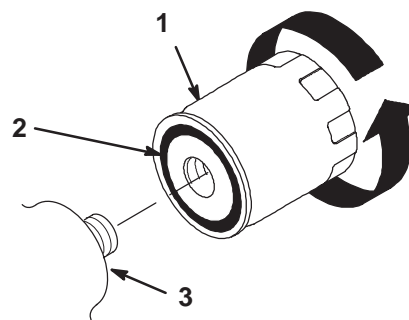

Figure 29
7. Apply a thin coat hydraulic fluid to the rubber gasket on the replacement filter (Fig. 29).
8. Install the replacement hydraulic filter onto the filter adapter. Tighten it clockwise until the rubber gasket contacts the filter adapter, then tighten the filter an additional 1/2 turn (Fig. 29).